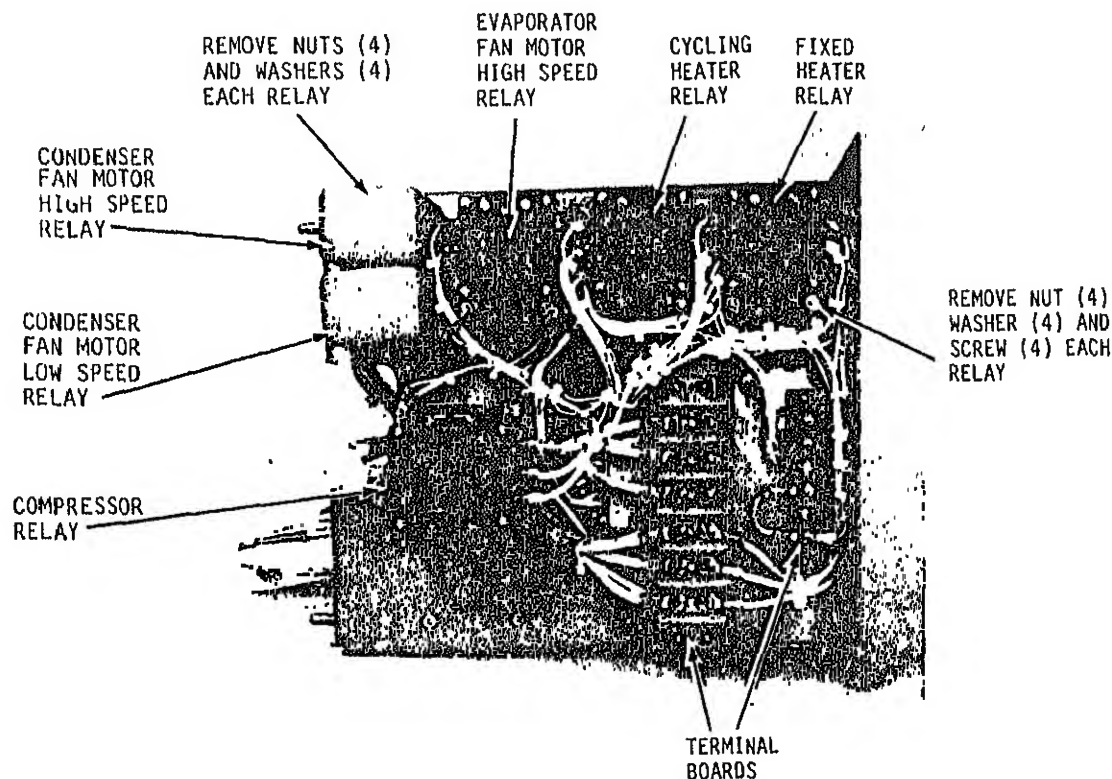

Figure 4-16. Heater relays, evaporator fan motor high speed relay, condenser fan motor relays, compressor relay and terminal boards, removal and installation.
(ii) Refer to figure 4-16 and remove the fixed heater relay.
(1) Refer to figure 4-16 and install the fixed heater relay.
(11) Refer to figure 4-16 for removal of the cycling heater relay.
(1) Refer to figure 4-16 and install the cycling heater relay.
(11) Refer to figure 4-16 and remove the evaporator fan motor high speed relay.
(1) Refer to figure 4-16 and install the evaporator fan motor high speed relay.
(11) Refer to figure 4-16 and remove the condenser high speed relay.
(1) Refer to figure 4-16 and install the condenser high speed relay.
(11) Refer to figure 4-16 and remove the condenser low speed relay.
(1) Refer to figure 4-16 and install the condenser low speed relay.
(11) Refer to figure 4-16 and remove the compressor relay.
(1) Refer to figure 4-16 and install the compressor relay.
(11) Refer to figure 4-16 and remove the terminal boards.
(1) Refer to figure 4-16 and install the terminal boards.